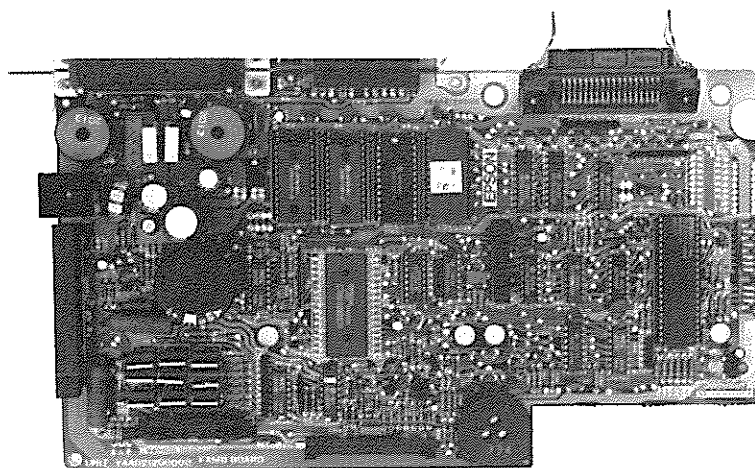

Fig. 1-6. FXMB Circuit Board (FX-80+/100+)
1.4.2 CONTROL CIRCUIT BOARDS (Figs. 1-6 and 1-7)